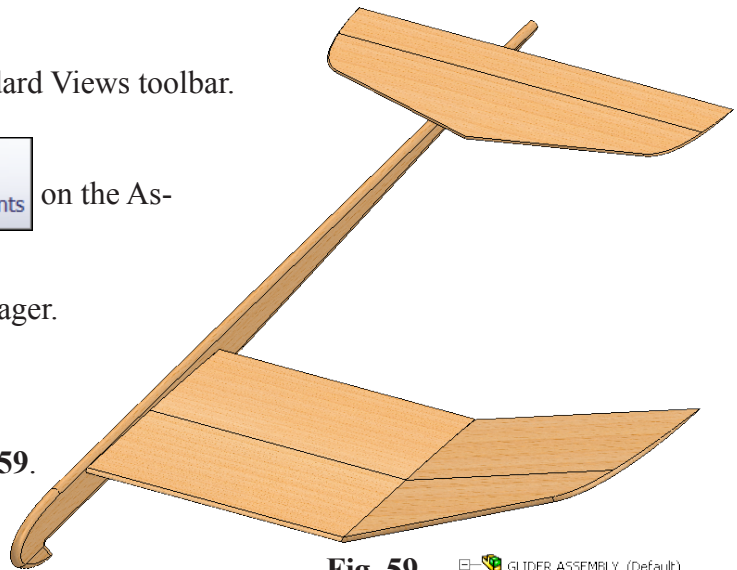

Fig. 59
Step 5. Place H Stab as positioned in **Fig. 59**.